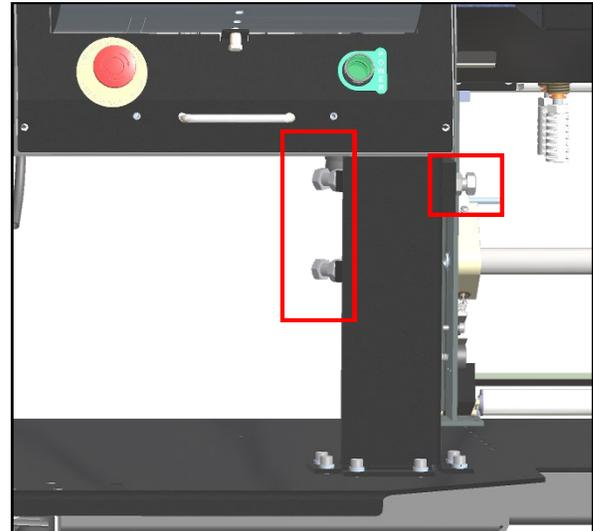

Figure 2-7A. Height Adjustment Bolts.
1. Loosen height adjustment bolts located on the Frame Upright. **Figure 2-7A.**